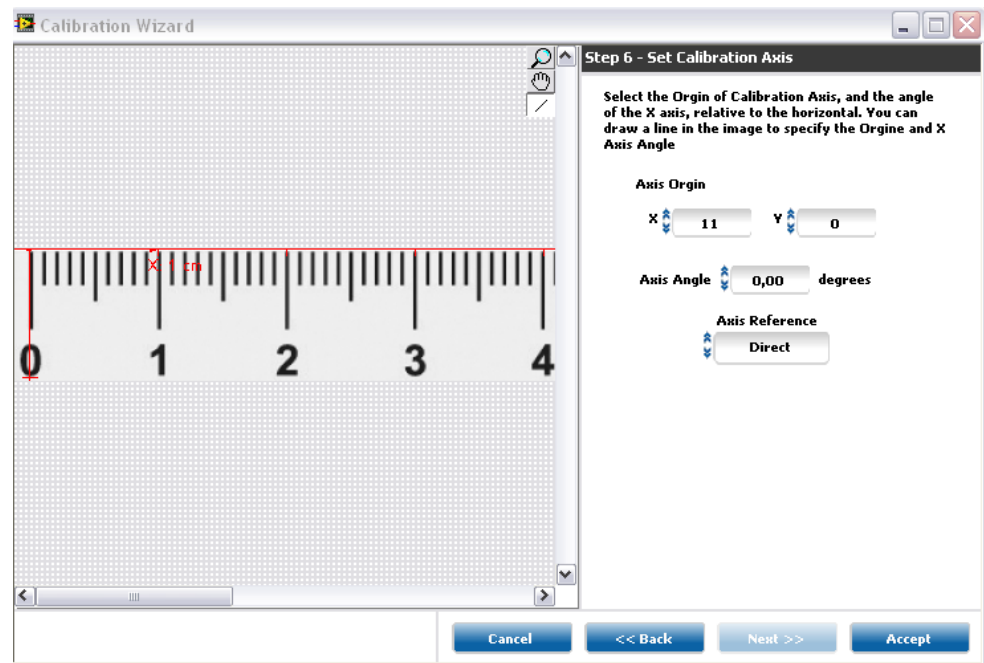

Figure 81. Set calibration axis.
4. Configure the Calibration Axis position and angle by either entering the values or drawing a line on the image. [Figure 81]